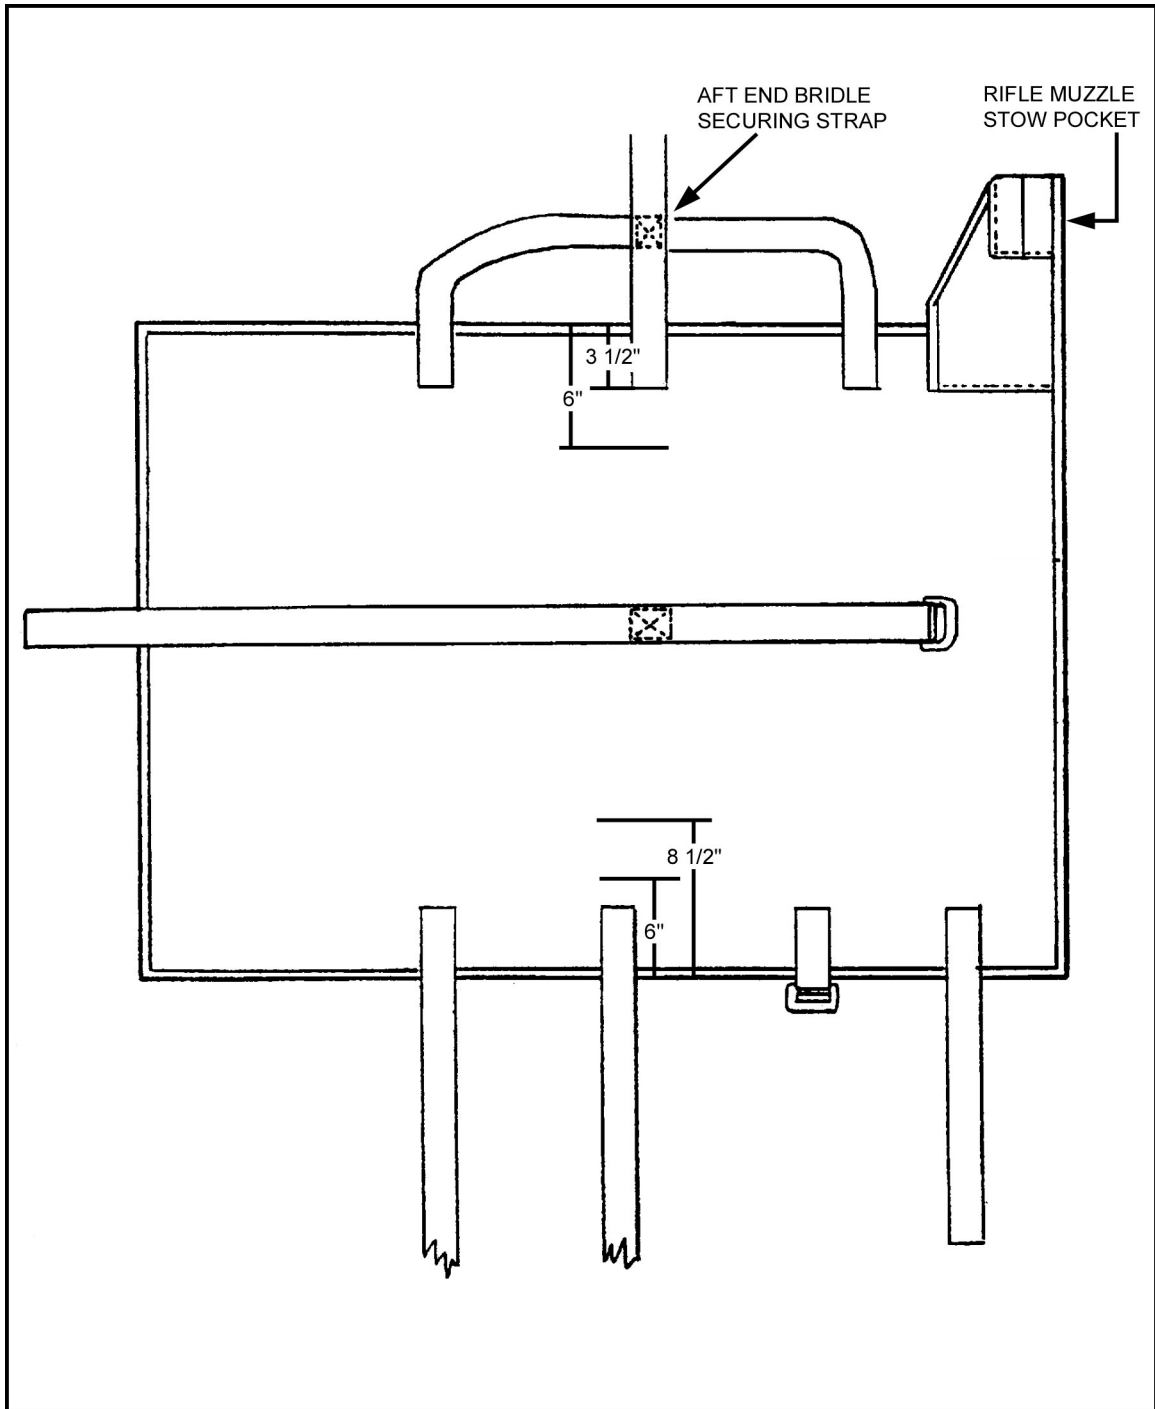

Figure 12-63. Stitching removed and DMJP markings.
c. Locate the point where the aft end bridle securing strap crosses the U-shaped portion and is sewn. Cut and remove this stitching, being careful to not damage the straps (Figure 12-63).
d. From this side of the DMJP, measure and make two marks at 3 1/2 inches and 6 inches. From the other side of the DMJP, measure and mark at 6 inches and 8 1/2 inches (Figure 12-63).